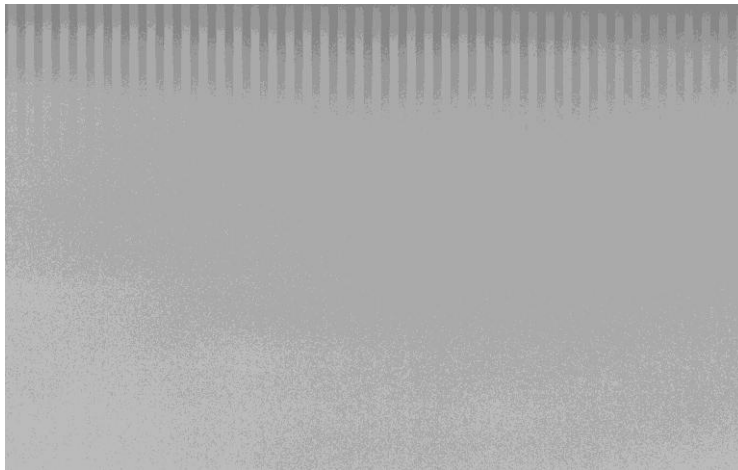

Figure 1: Example of Vertical Stripes
2. Stripes are visible primarily in the top or bottom of image (as in Figure 1).